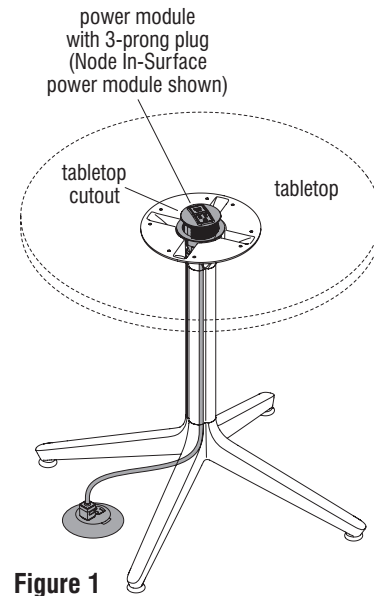

Figure 1
1. Place tables at their final location (Figures 1 & 2).